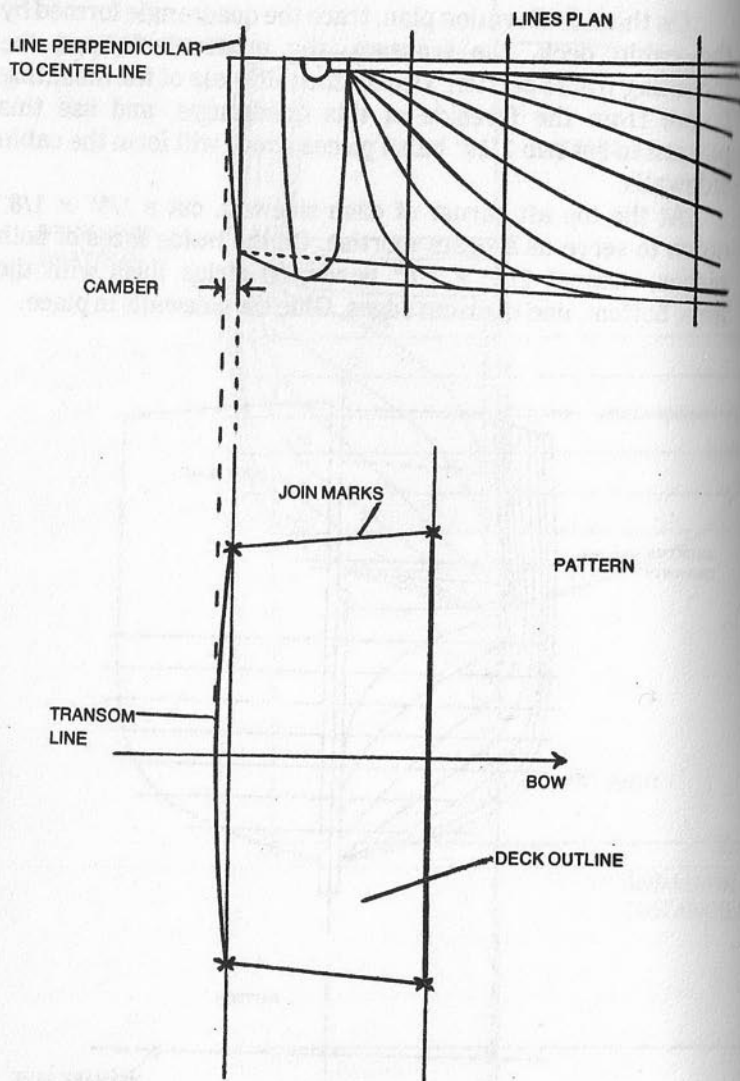

Fig. 6-26. Cabin deck—step 4.
4. On the lines plan (top view), draw a line perpendicular to the centerline, passing through the corners of the transom. Measure aft from this line to the center of the transom. This gives the camber, or curvature, of the transom. On the bisecting line of the working drawing, mark this distance astern of the transom line, and use a French curve to draw the curve in. Join the marks on the parallel lines to obtain the deck shape. Use scissors to cut out the cabin deck pattern, and transfer the pattern to 1/8" sheet hardwood. (See Fig. 6-26.)